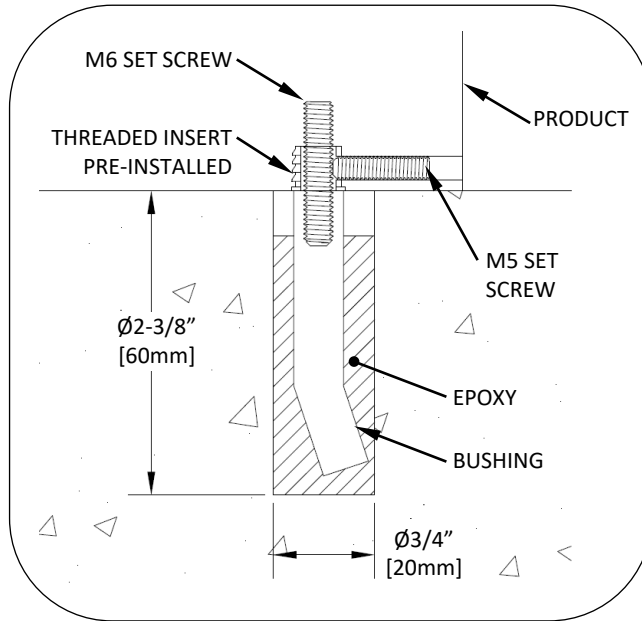

Fig. 2 – surface mount anchor detail
2. Position M6 set screw/bushing assembly in threaded insert on bottom of unit. Tighten side set screw to secure. See Fig. 2 and 2A.